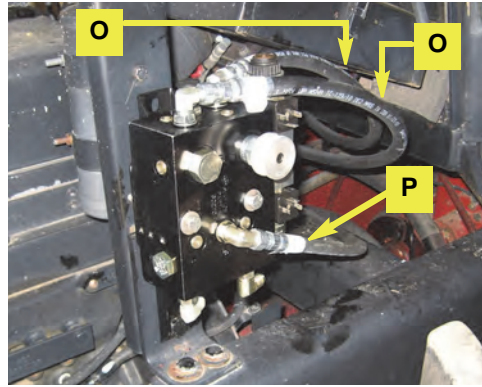

Figure 5a: Installed pressure, tank and load sense hoses at the automated steering block
- a. Connect the pressure hose (**O**) between the **P** port of the automated steering block and the pressure run-tee fitting (**F** or **G**) on the steering orbital. Use the provided elbow adapter (**H** or **I**) to connect the pressure hose (**O**) to the steering orbital. The pressure port of the steering orbital is the lower right hand port (Figures 5a and 5b).
- b. Connect the tank hoses (**O**) between the **T** port on the automated steering block and the tank run-tee fitting (**F** or **G**) on the steering orbital. Use the provided elbow adapter (**H** or **I** - see note following) to connect the tank hose (**O**) to the steering orbital. The tank port of the steering orbital is the lower left hand port (Figures 5a and 5b).